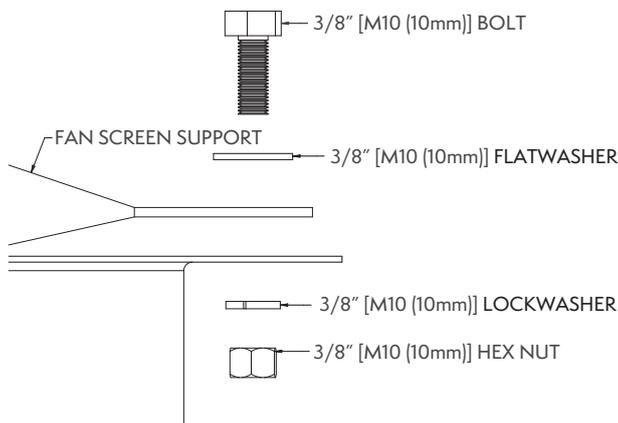

Figure 25 – Fan Screen Support Attachment Hardware
3. Align the (8) holes on each fan screen support assembly with the pre-drilled 3/8" (10 mm) holes in each fan cylinder. Secure the fan screen supports to the cylinder with 3/8" (10 mm) hardware as shown in Figure 25.